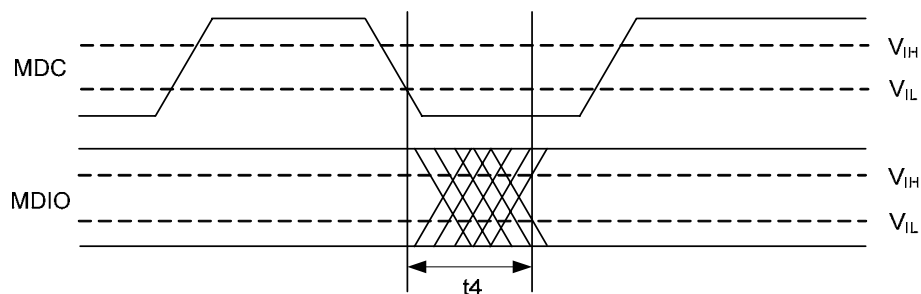

Figure 22. MDIO Sourced by RTL8218B-VC (Slave)
- The timing characteristics t_4 (Figure 22) of the Slave (RTL8218B-VC) are provided by the RTL8218B-VC when the RTL8218B-VC sources the MDIO signal (Read command)